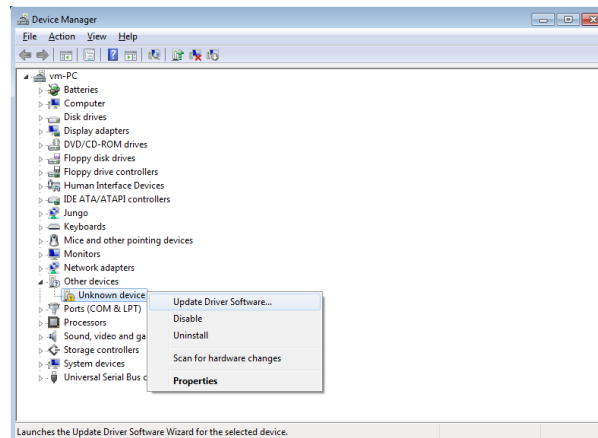

Figure 5.4.
2. In the device manager, find the unknown device. Right click on it to open the menu and choose '**Update Driver Software...**' as Figure 5.4 shows.